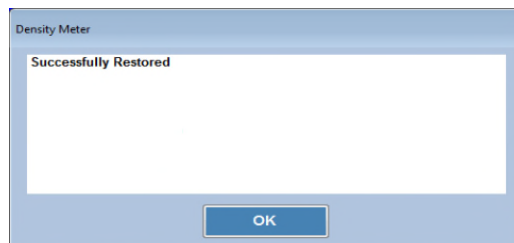

Figure 10.54 – Restoration success
- 5) After the configuration settings have been restored you will see the screen shown in figure 10.54 below. Click the **OK** button. The restore is finished.